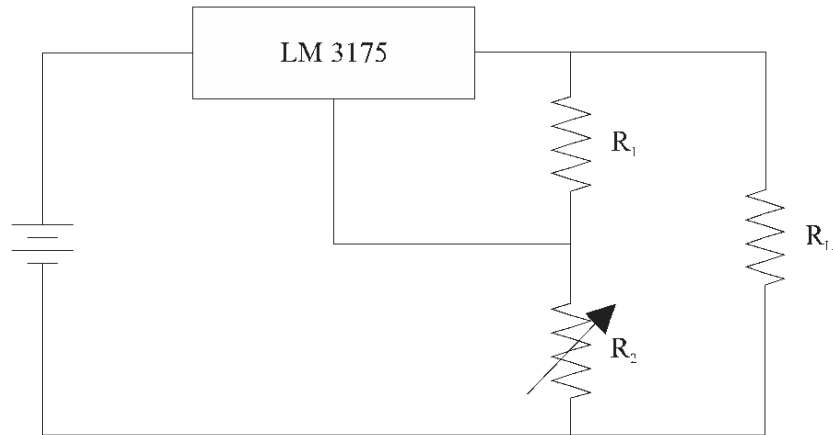

Figure 7-9-2. Integrated variable regulator.
3. Assemble the circuit shown in Figure 7.9.2, use a 220Ω resistor for R_1 , and a $5K\Omega$ potentiometer for R_2 . Measure the voltage without load.
4. Determine the voltage range for the output of the circuit in figure 7.9.2.